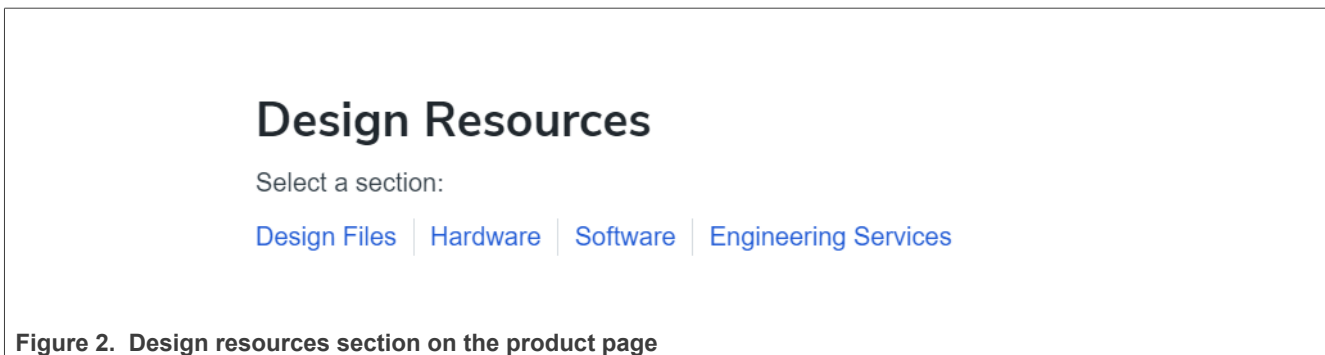

Figure 2. Design resources section on the product page
- Click **Software** in the Design resource section (Figure 2).